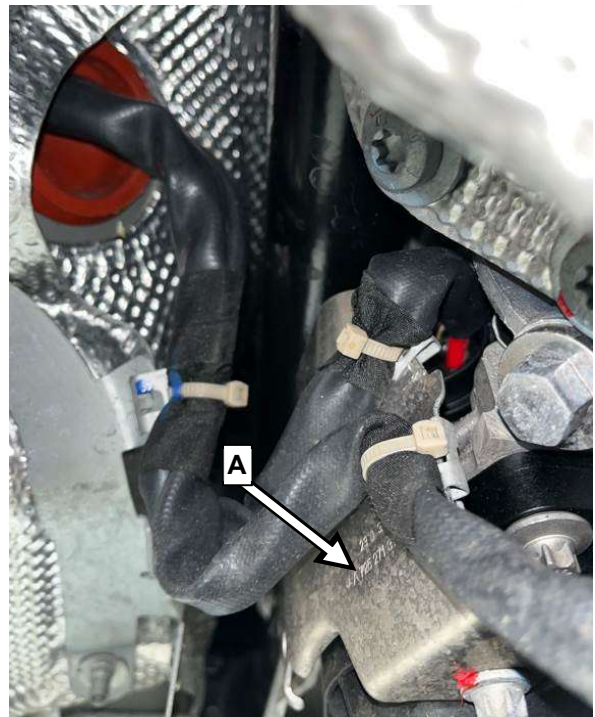

Figure 6
3. Remove protective metal sheet (Figure 6, A).